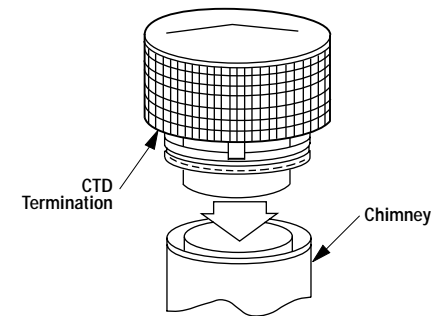

Figure 33
1. Hold the FTF8-CTD over top of last chimney section (Figure 33).